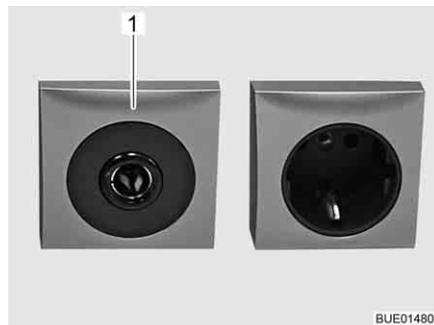

Fig. 103 12 V/10 A socket
- ▷ Only connect devices with a maximum of 10 A to the sockets (Fig. 103,1) of the 12 V power supply.